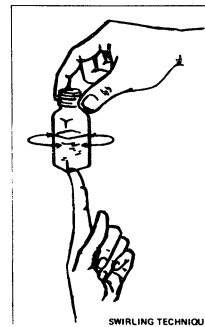

Figure 2.
2. Fill the mixing bottle to the 20-mL mark with Demineralized Water. Swirl to mix *as shown in Figure 2*.